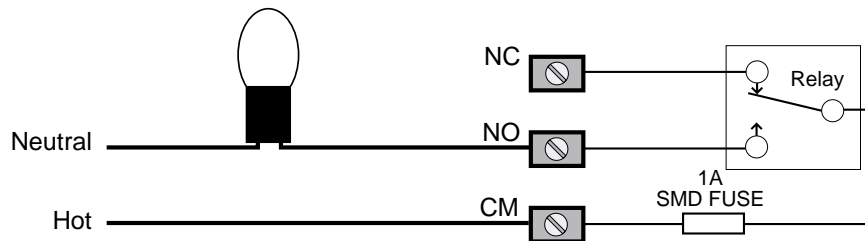

Figure 1: Turn on a Lamp when the Setpoint is Reached
Some examples of uses for the setpoint relays are: Using the normally open position of a set point as a switch to turn on a light or siren when the set point is reached, using the normally closed position to cut out a motor when a set point is reached, or using the set point relays to change speeds on a motor. See figure 1 for an example hook up to a lamp. The normally open (NO) contact of a relay is used to turn devices on when a set point is reached, while the normally closed (NC) contact is used to turn a device off when the set point is reached. The common (COM) contact connects the power to the relay.